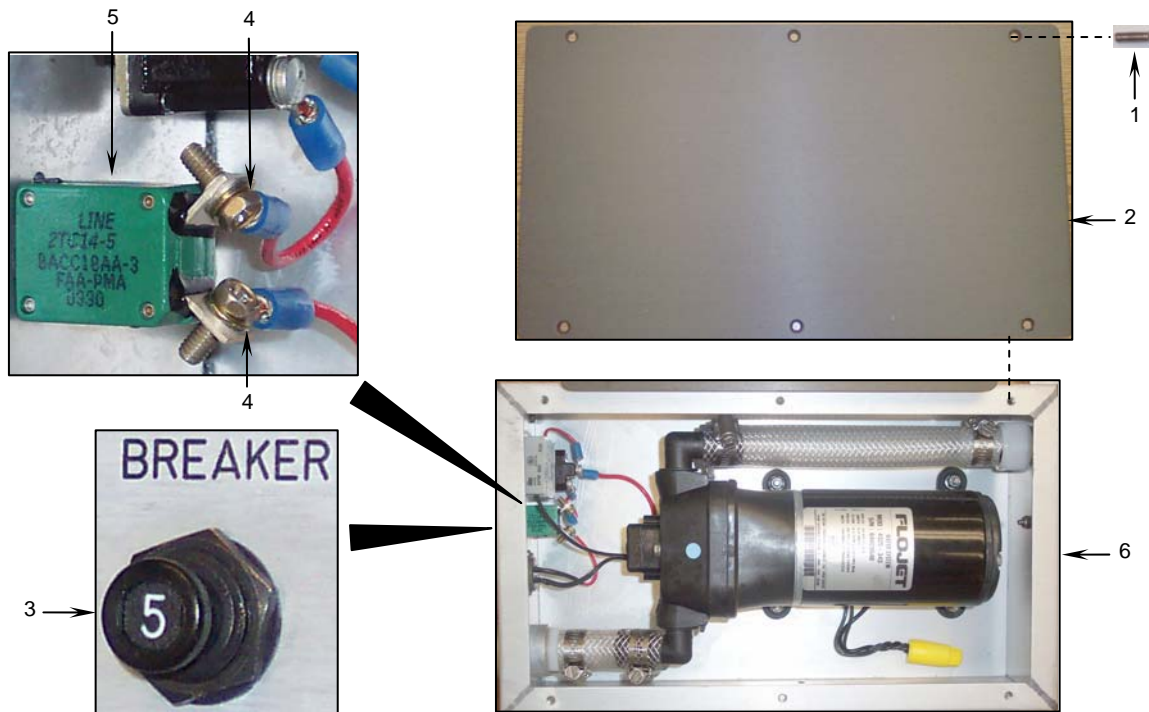

Figure 3. Testing the Fill Pump Assembly Circuit Breaker.
- a. Remove the six flat head machine screws (**Figure 3, Item 1**) from the fill pump cover (**Figure 3, Item 2**).
- b. Remove the cover (**Figure 3, Item 2**).
- c. With the breaker reset button (**Figure 3, Item 3**) pushed in, place the multimeter test probes on the two terminals (**Figure 3, Item 4**) at the back of the breaker (**Figure 3, Item 5**). The multimeter should read zero.
- a. Apply sealing compound to the six flat head machine screws (**Figure 3, Item 1**) and secure the fill pump cover (**Figure 3, Item 2**) to the sink fill pump assembly enclosure (**Figure 3, Item 6**) using the six screws.